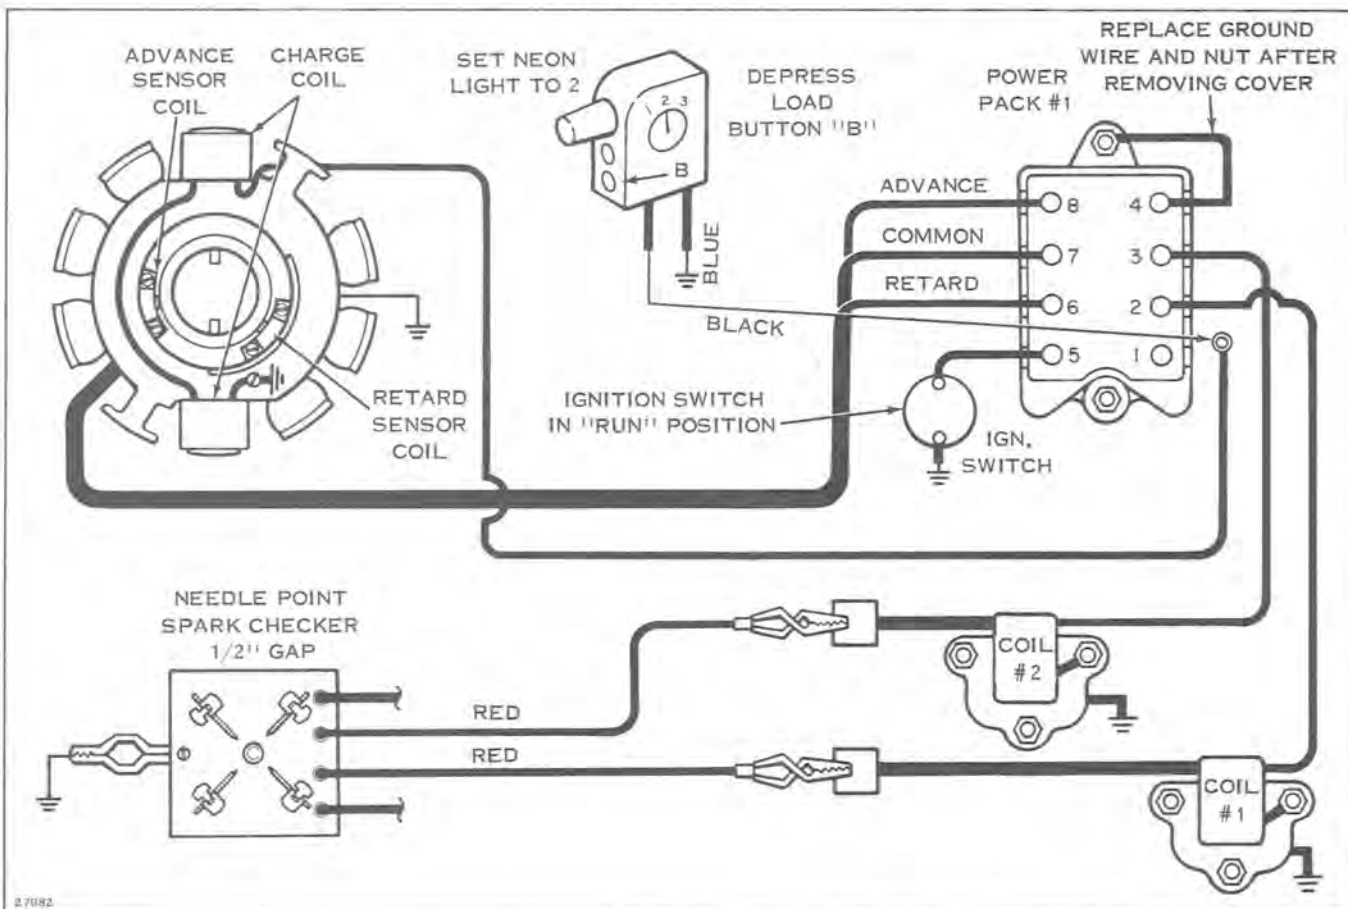

Figure 7-15
- B. Use Neon tester S80 or M80. Connect neon tester black lead to charge coil brown/white stripe lead and tester blue lead to engine ground. See Figure 7-15.
- E. Turn ignition switch to "RUN" position and crank engine with manual starter (with ignition switch "RUN") and observe neon tester light. See Figure 7-15.